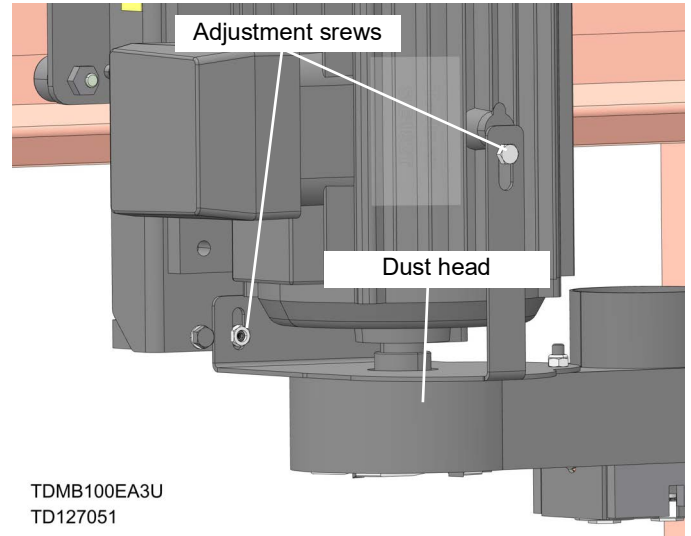

FIG. 5-4
3. Use Dust head adjustment screws for moving dust head up and down as needed. See FIG. 5-4